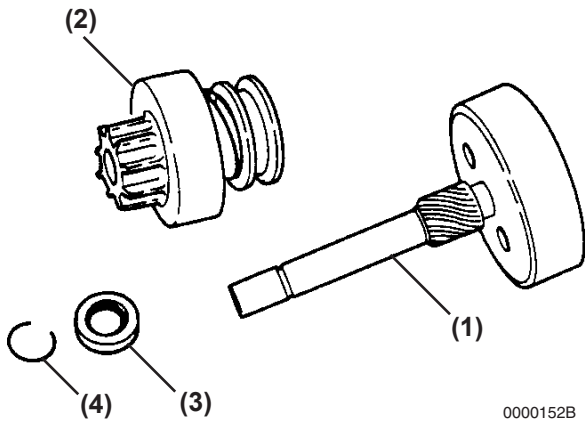

Figure 4-6-10
13. Remove the pinion stop (**Figure 4-6-10, (3)**), return spring (if equipped), and pinion clutch assembly (**Figure 4-6-10, (2)**), from the pinion shaft (**Figure 4-6-10, (1)**).